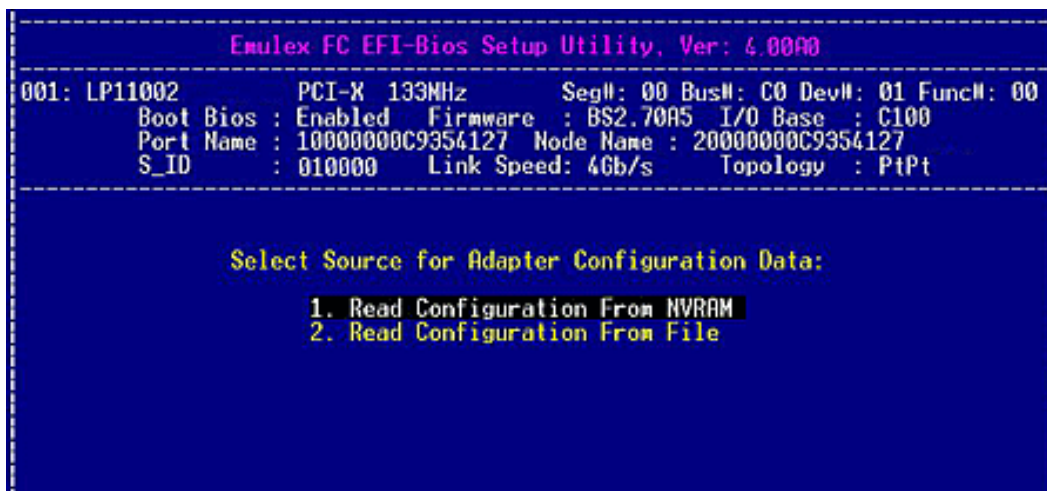

Figure 6-33 Select Source for Adapter Configuration Data Menu
1. On the Save Configuration menu, select **2. Batch Configure Adapters**. You are prompted to select a source for the configuration (Figure 6-33).
- On the Save Configuration menu, select, **2. Batch Configure Adapters**. You are prompted to select a source for the configuration (Figure 6-33).